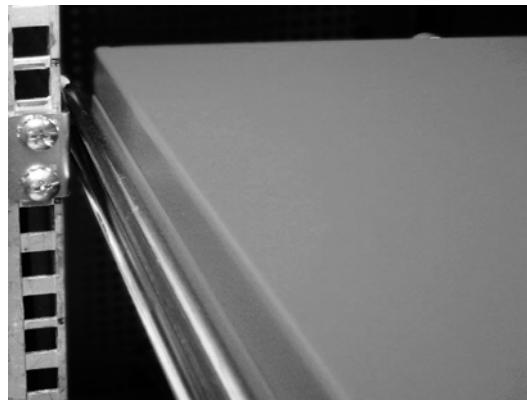

FIGURE 1-25. Mounted device (sliding mount)
4. Push the device into the rack until the front and back end slide set screws engage into their slots (see *Figure 1-25*).